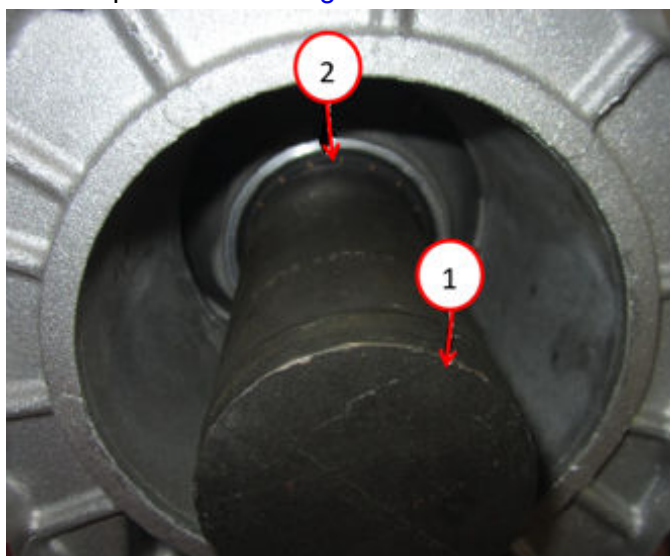

Fig. 51
79. Using a Seal Installer, install the output shaft seal Fig. 51.